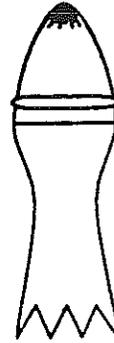

Fig. 4
6. Immediately (within 1/2 second) invert the transducer end of the pen to point toward the sky. (see Fig. 4)